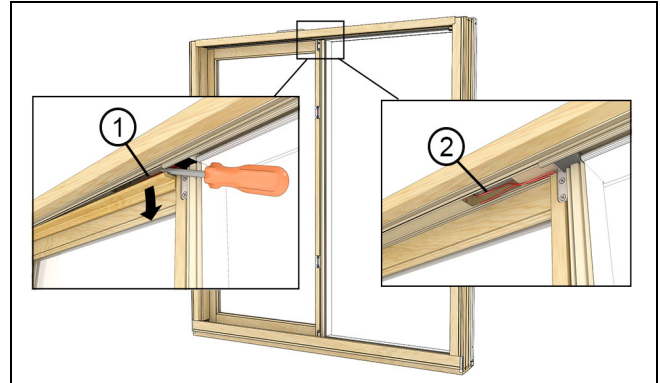

Figure 22
3. Remove the head jamb part stop by inserting a flat head screwdriver in the notch at the end of the part stop. Pry down on the part taking care not to damage the wires routed in that location. See Figure 22.